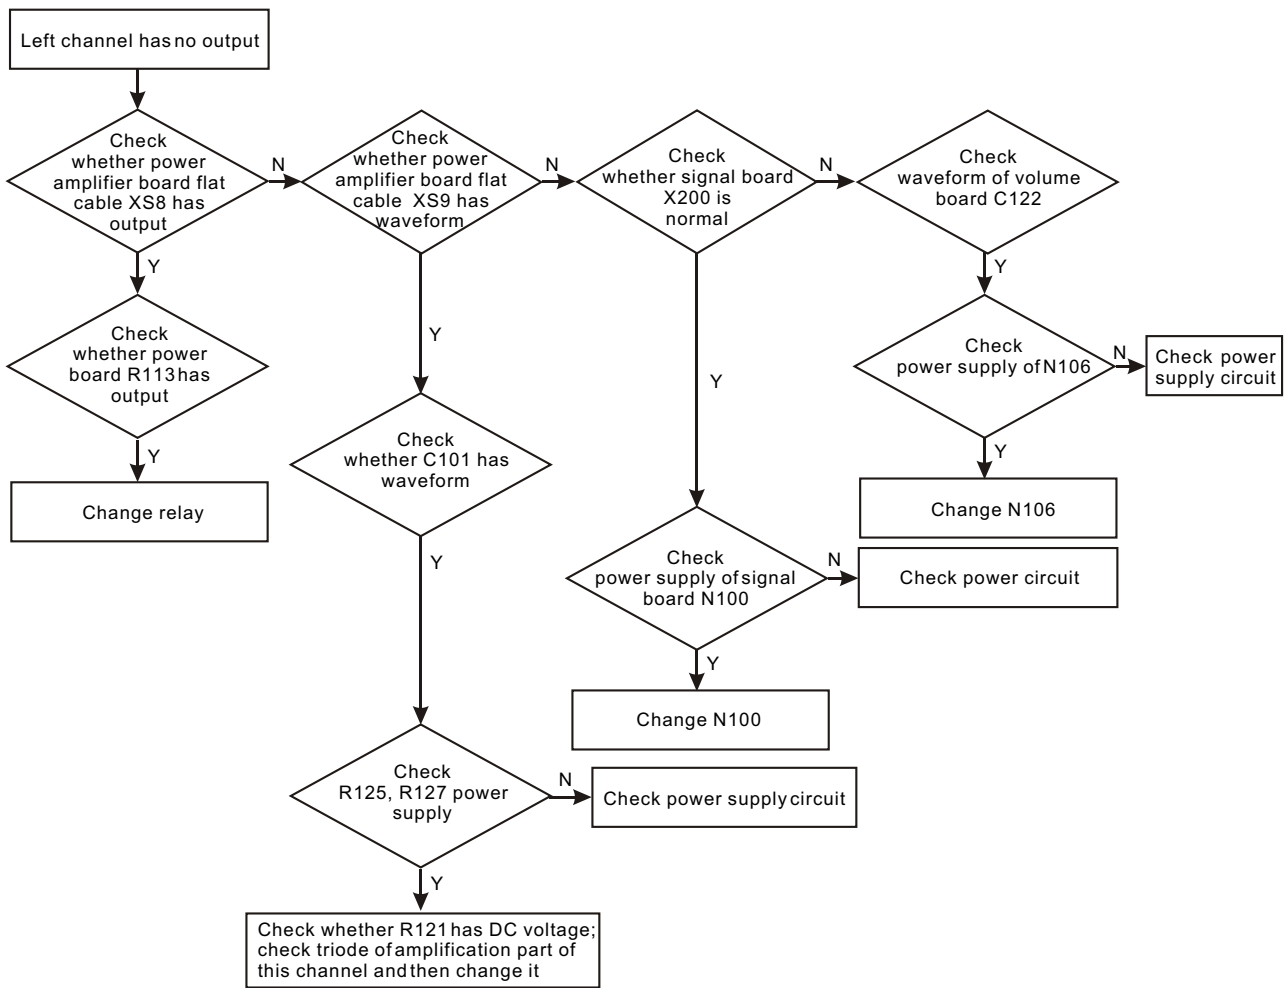

Figure 3.3.2.7 Troubleshooting flow chart for "Left channel has no output"
8. Troubleshooting process for "Power not on" is shown as the following figure 3.3.2.8: